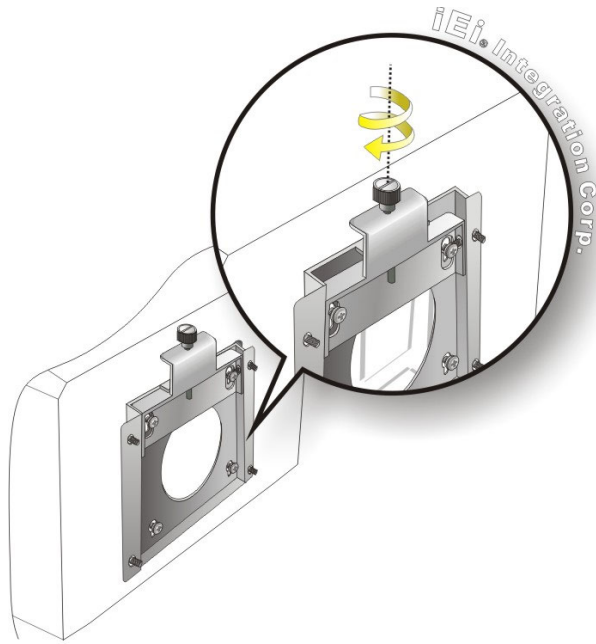

Figure 3-30: Secure the Panel PC
Step 9: Secure the panel PC by fastening the retention screw of the wall-mounting bracket (**Figure 3-30**).